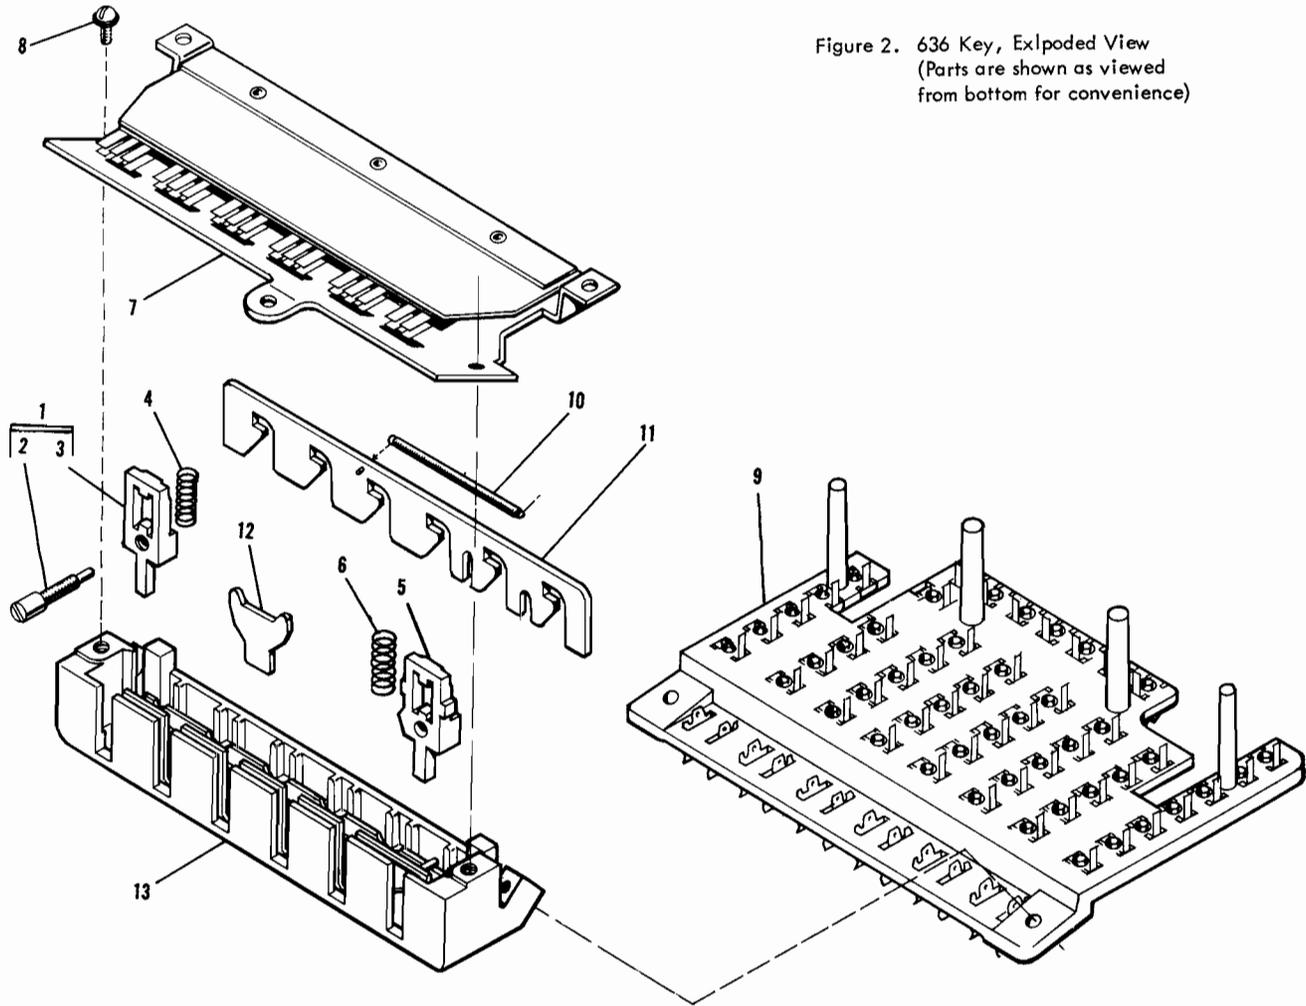

Figure 2. 636 Key, Exploded View
The 636 Key is readily identified by the square plungers and the large terminal board assembly which includes the lamp strip. The Spring Bank Assembly (7, figure 2) is of secure one-piece construction. The design eliminates loose pile-up condition and reduces vibration of spring contacts. Most connections beneath the key are made by wire wrap method.
3.1 The key is equipped with one hold key and five pick-up, (line), keys. Three of the pick-up keys may be converted for signaling purposes, (PS3, PS4, and PS5). To convert key from locking to non-locking unscrew the plunger screw (2, figure 2) six or eight turns to clear the Lockout Slides, (12), and change key leads as shown on the circuit diagram of the instrument.